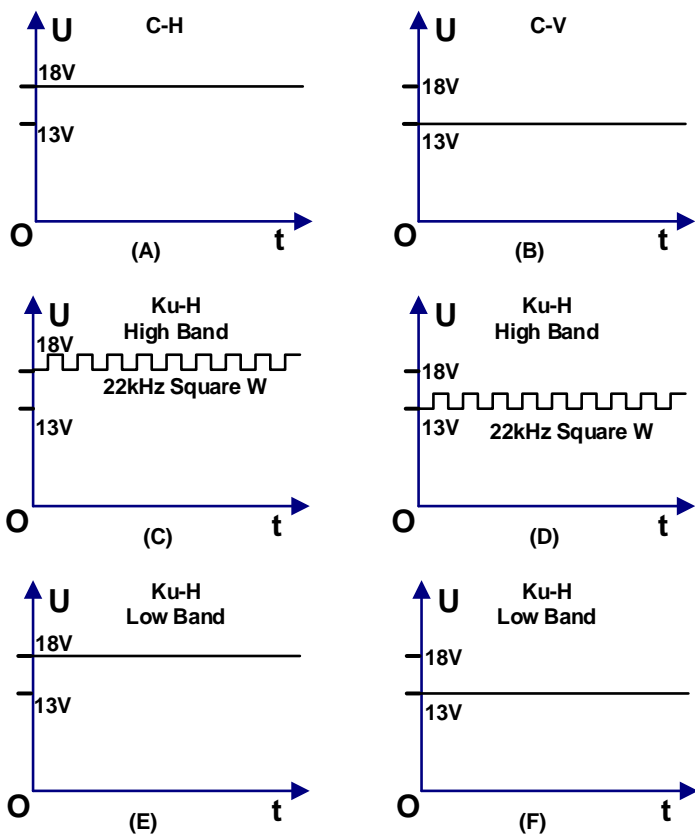

Figure 14-55 Satellite IF signal switch work principle
If user want to receive C band horizontal polarization signal, only use 18V signal, as the Figure 14-55(A) show. If user want to receive C band vertical polarization signal, only use 13V signal, as the Figure 14-55(B) show.
If user want to receive Ku band high band horizontal polarization signal, the 22kHz square-wave signal is superimposed on 18V signal, the 0/22kHz status is "On", the frequency is 22kHz, as the Figure 14-55(C) show. If user want to receive Ku band high band vertical polarization signal, the 22kHz square-wave signal is superimposed on 13V signal, the 0/22kHz status is "On", the frequency is 22kHz, as the Figure 14-55(D) show.
status is “Off”, the frequency is 0kHz, as the Figure 14-55(E) show. If user want to receive Ku band low band vertical polarization signal, the 22kHz square-wave signal is not superimposed on 13V signal, the 0/22kHz status is “Off”, the frequency is 0kHz, as the Figure 14-55(F) show.